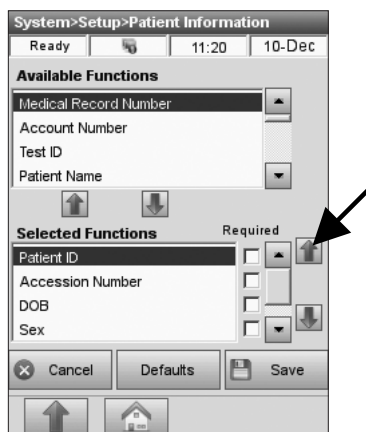

Fig. 3-19 Patient Information
5. The options will be shown in the patient entry form during a patient measurement in the order they are listed in the lower box. The order can be changed by selecting the desired option in the lower box and pressing the **<Up>**  or **<Down>**  arrow buttons to the right of the selection box (Fig. 3-19) to move the option up or down in the list.